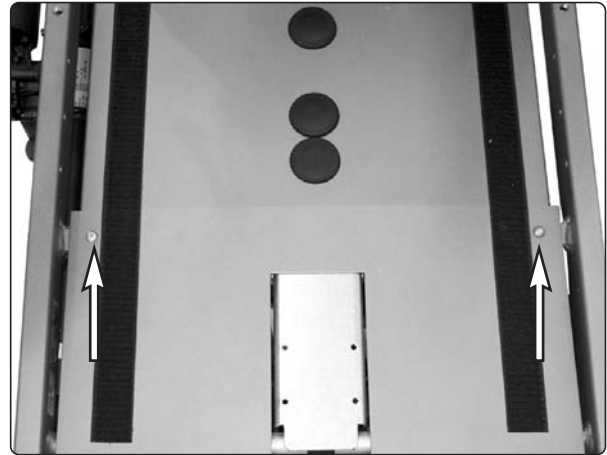

Fig. 32. The seat plate is mounted with two screws.
10. Unscrew and remove the two screws holding the seat plate, see fig. 32.